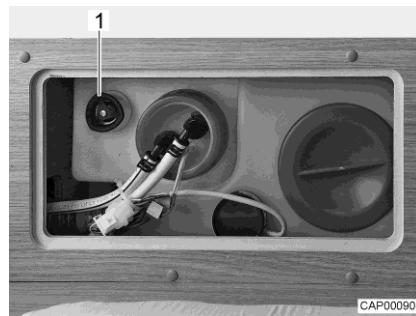

Fig. 88 Water tank with rotary handle
- Turn the rotary handle (Fig. 88,1) on the water tank in a clockwise direction as far as it will go.
- Turn the rotary handle (Fig. 88,1) on the water tank in an anticlockwise direction as far as it will go. Excess water will drain away leaving approx. 20 litres in the tank.